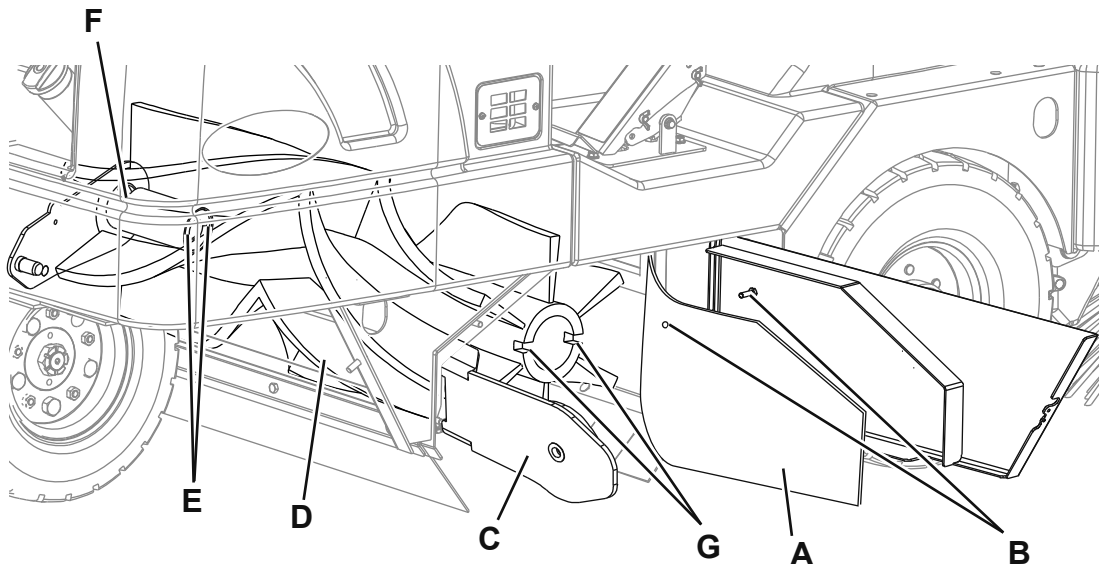

Figure 2
3. Turn the ignition key (64) and start the machine.
4. Lower the main broom with the lever (53).
5. Turn the ignition key (64) to "O" to stop the machine.
6. Open the right panel (18).
7. Move aside the right side skirt (A, Fig. 2) and fasten it with the pin (B).
8. Pivot the idler arm assembly (C) out of the main broom core (D).
*The idler arm is held in place by the right side access panel (18).*
9. Pull the main broom (D) out of its housing and remove any string or wire wrapped around it and the drive hub.
10. Replace the main broom, slide it back into its housing. Make sure that the slots on the main broom core (D) engage the pins (E) in the main broom drive hub (F) and that the main broom is fully seated.
11. Close and swing the idler arm assembly (C) back into the main broom core.
*Make sure the lugs on the idler arm engage the slots (G) (right side) of the main broom core.*
12. Place the right side skirt back to its position and close the right panel (18) until the lock lever engages.